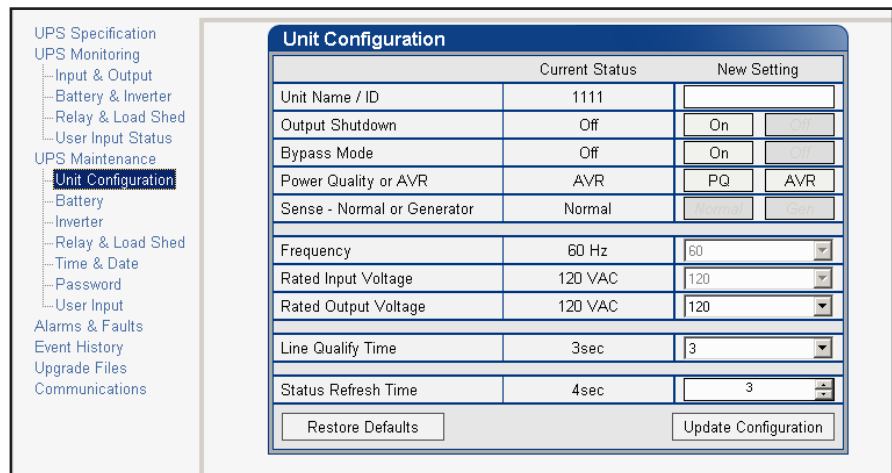

Figure 7.30 – Restore all default command
- RS-232 GUI – Figure 7.30 shows the **UPS Maintenance > Unit Configuration** screen. Click the **Restore Defaults** button. Enter the password to execute the command.